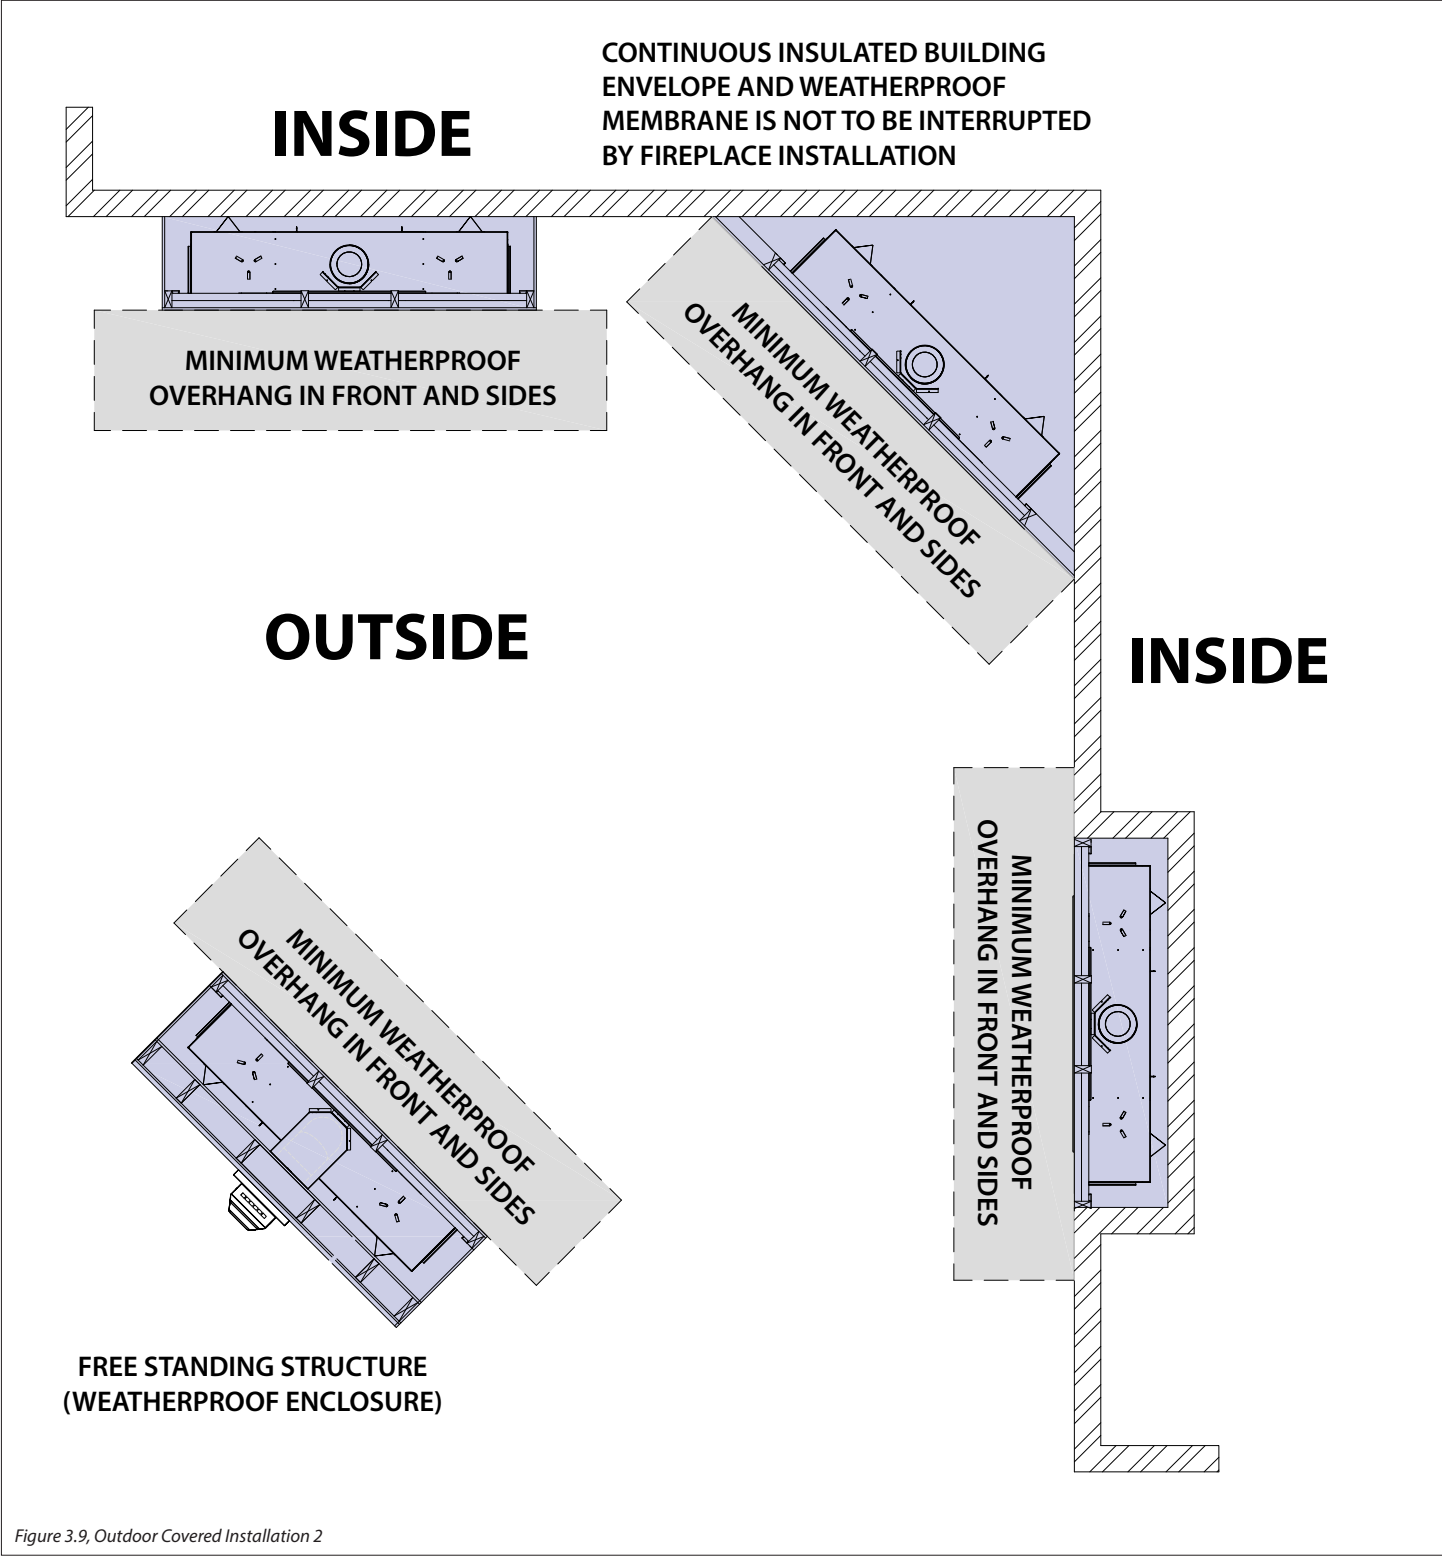

Figure 3.9, Outdoor Covered Installation 2
- The continuous insulated building envelope and weatherproof membrane is not to be interrupted by fireplace installation. See Figure 3.9 on the following page.